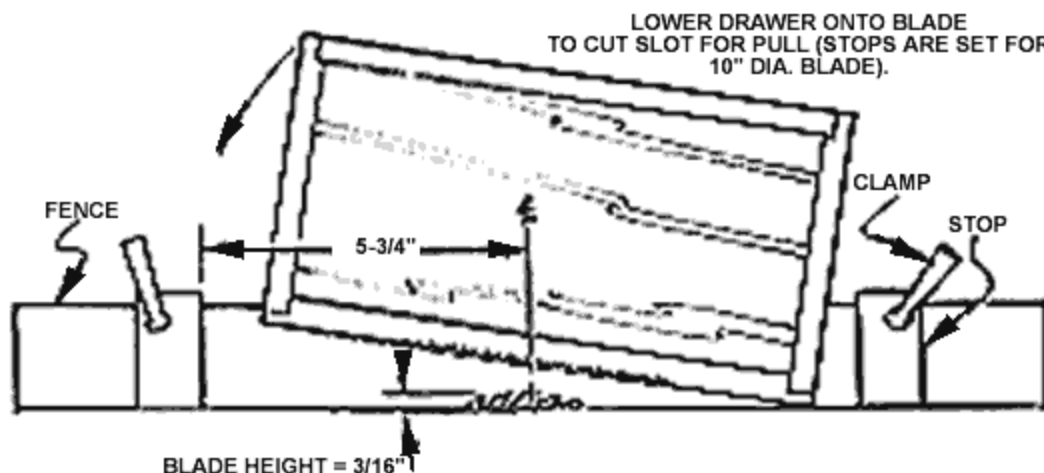

Figure 3. Drawer Front Slot Cutting Detail
4. Use the table saw, along with a pair of stop blocks — one in front of and the other behind the blade — to cut the slots in the drawer fronts (see **Figure 3**).
5. Mill 5/8" by 3/8" thick Indian rosewood stock to make the drawer pulls (L).